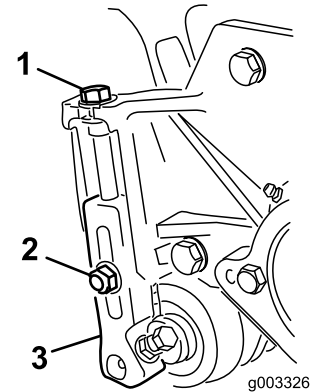

Figure 17
1. Loosen locknuts securing height-of-cut brackets to cutting unit side plates (Figure 17).